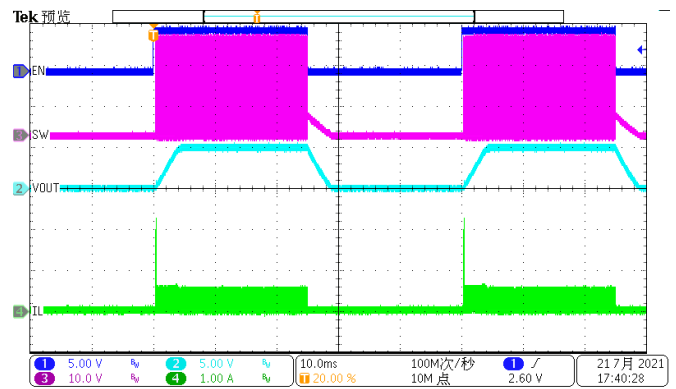

Figure 15. EN Toggle, IOUT=0.1A
The SCT2330C features external programmable output voltage by using a resistor divider network R1 and R2 as shown in the typical application circuit Figure15. Use equation (11) to calculate the resistor divider values.